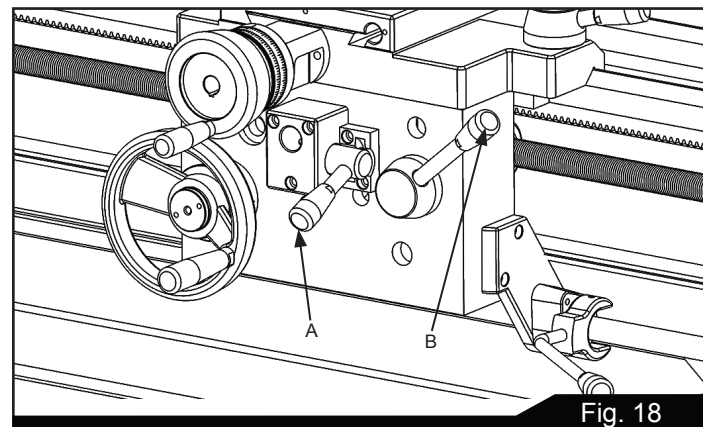

Fig. 18
The tailstock can be offset for production of shallow tapers or for re-alignment. Release the clamping lever (A) and adjust screws (S) at each side of the base to move tailstock laterally across the base. An indication of the offset is given by the datum mark (C) at the tailstock end face, as shown in Figure 18. Apply clamp lever after adjustment of set-over.